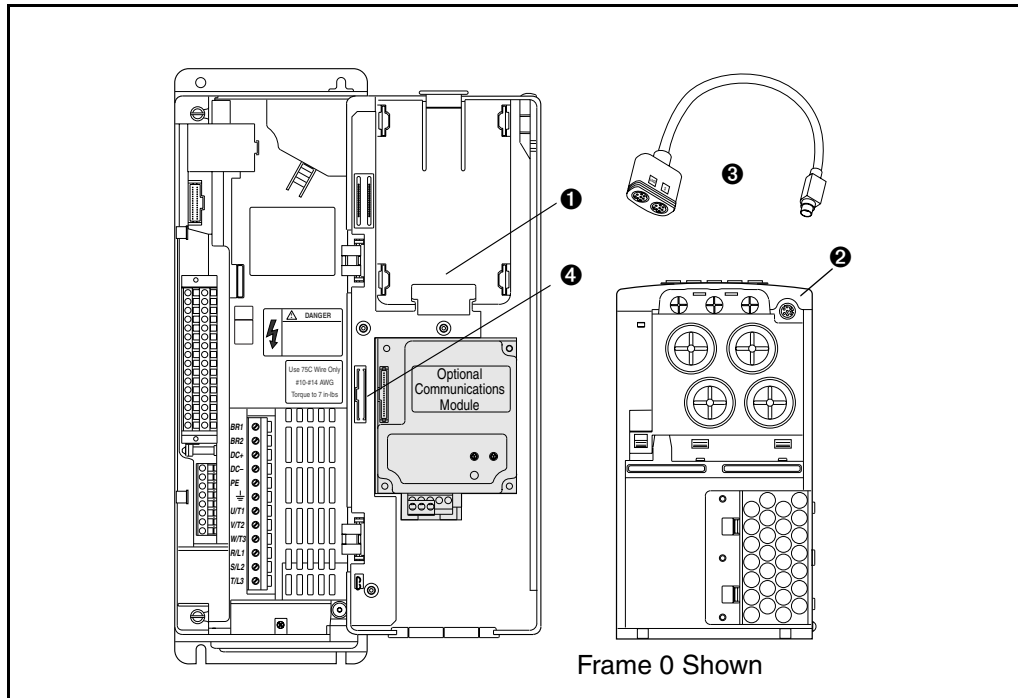

Figure 2.6 – Drive Connections (Frame 0)
Figure 2.6 shows the locations of the connectors used to set up and operate the drive. Table 2.10 identifies the drive connections shown with the corresponding number in figure 2.6.
❶	DPI Port 1	OIM connection.
❷	DPI Port 2	Cable connection for handheld and remote options.
❸	DPI Port 3 or 2	Splitter cable connected to DPI Port 2 provides additional port.
❹	DPI Port 5	Cable connection for optional communications module.
The flat-ribbon cable connector (labeled ④ in figure 2.6) is a parallel bus connection port that provides a means of attaching optional communication modules.